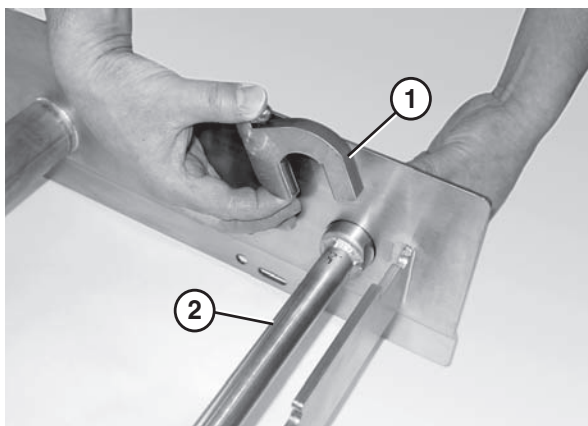

Figure 23
2. Attach the key stops (**Figure 23, item 1**) to the tip up shaft (**Figure 23, item 2**). The rounded end of the key stop should face the tail.